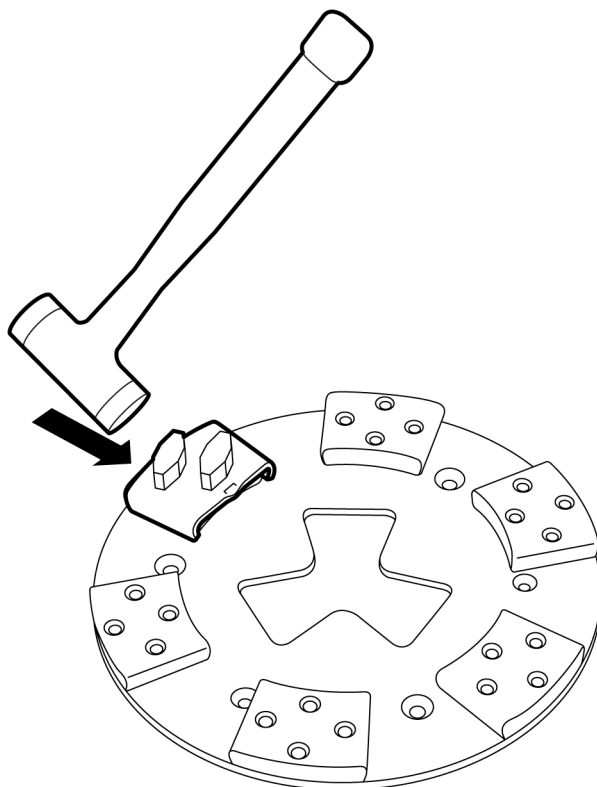

Figure 4-3. Removing grinding tools
1. Remove the grinding tool by giving it a few light taps with a rubber hammer so the locking mechanism releases, see Figure 4-3, page 21. Then draw the tool up out of the guide slot.